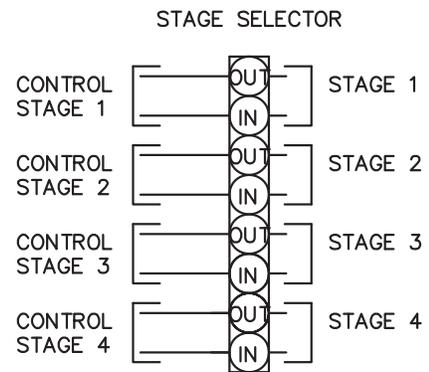

Fig. 23: 4-Stage Wiring Connection
2. For 2-stage controller connections, connect each stage of the control to the corresponding stage of the CPW board in the heater, i.e., stage 1 of the heater to stage 1 of the control; stage 2 of the heater to stage 2 of the control, as shown in Fig. 23 and Fig. 26. Set the operating control to the set-point at which you want the heater to maintain. Ensure that the sensing bulb of the control is at the point in the system that will best maintain the temperature you want. For example, when you are heating a tank of water, you want the operating control sensor bulb in the tank.